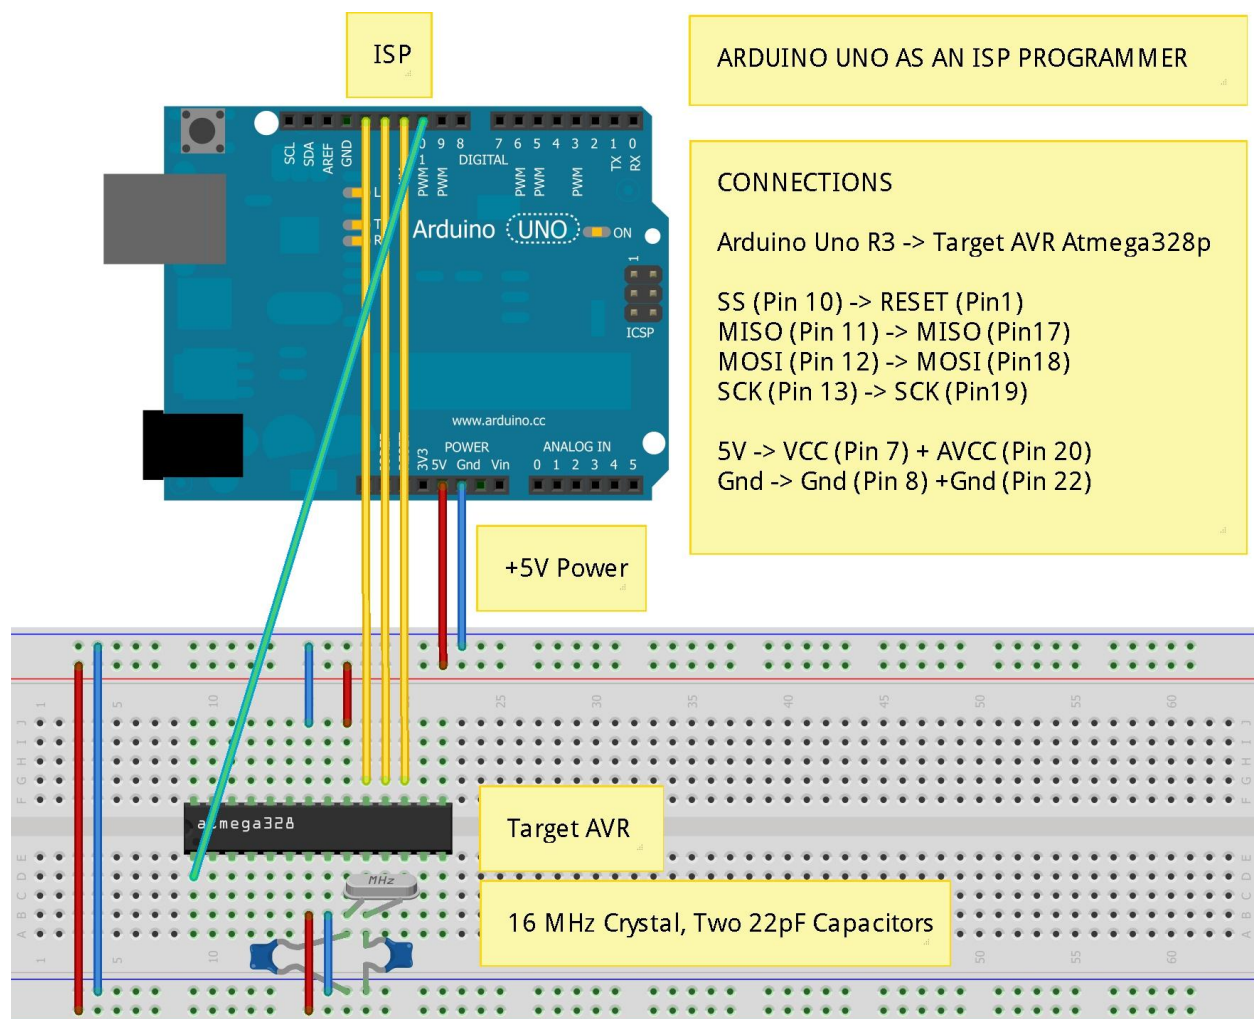

Fig. 1
- 2) Connect the **ISP pins** of **Arduino Uno** to the **Target AVR** as indicated in the Fig.1.
(2) Connect the ISP pins of Arduino Uno to the Target AVR as indicated in Fig.1
As a note: The crystal and its two capacitors have to be as close to **XTAL1**, **XTAL2** pins of the **Target AVR** as possible (like in Fig. 1). If you position them in a different configuration, far from the processor, running wires between capacitors, crystal and the AVR, the newly formed oscillator can refuse to work and **avrdude** will throw the error “Invalid device signature” when you try to program the microcontroller.